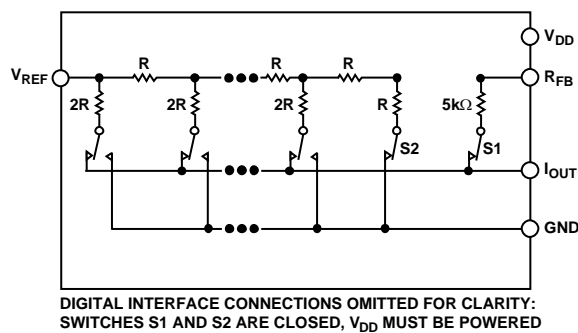

Figure 16. Equivalent R-2R DAC Circuit
The DAC architecture uses a current-steering R-2R ladder design. Figure 16 shows the typical equivalent DAC. The DAC contains a matching feedback resistor for use with an external I-to-V converter amplifier. The R_{FB} pin is connected to the output of the external amplifier. The I_{OUT} terminal is connected to the inverting input of the external amplifier. These DACs are designed to operate with both negative or positive reference voltages. The V_{DD} power pin is used only by the logic to drive the DAC switches on and off. Note that a matching switch is used in series with the internal $5\text{ k}\Omega$ feedback resistor. If users attempt to measure the R_{FB} value, power must be applied to V_{DD} to achieve continuity. The V_{REF} input voltage and the digital data (D) loaded into the corresponding DAC register, according to Equation 1 and Equation 2, determine the DAC output voltage.